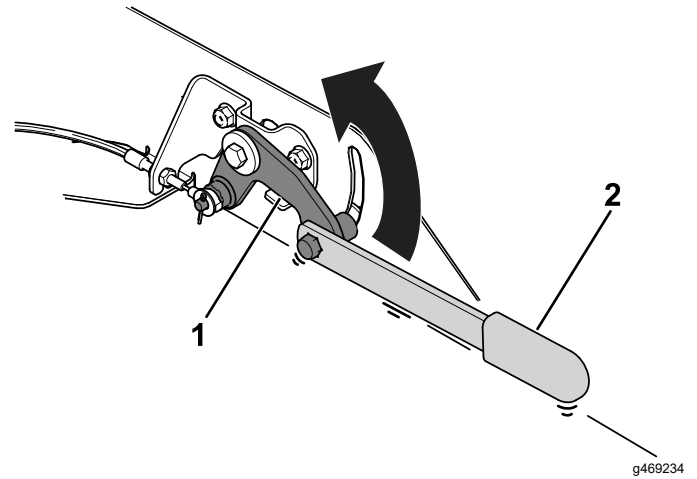

Figure 39
- C. Place the lever on the brake-release assembly, move it up in the slot to disengage the parking brake (Figure 39), and tighten the nut to keep the parking brake disengaged while you tow the machine.